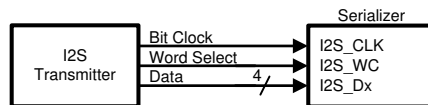

Figure 11. I²S Connection Diagram
The DS90UB929-Q1 serializer features six I²S input pins that, when paired with a compatible deserializer, supports 7.1 High-Definition (HD) Surround Sound audio applications. The bit clock (I2S_CLK) supports frequencies between 1 MHz and the lesser of IN_CLK/2 or 13 MHz. Four I²S data inputs transport two channels of I²S-formatted digital audio each, with each channel delineated by the word select (I2S_WC) input. Refer to Figure 11 and Figure 12 for I2S connection diagram and timing information.